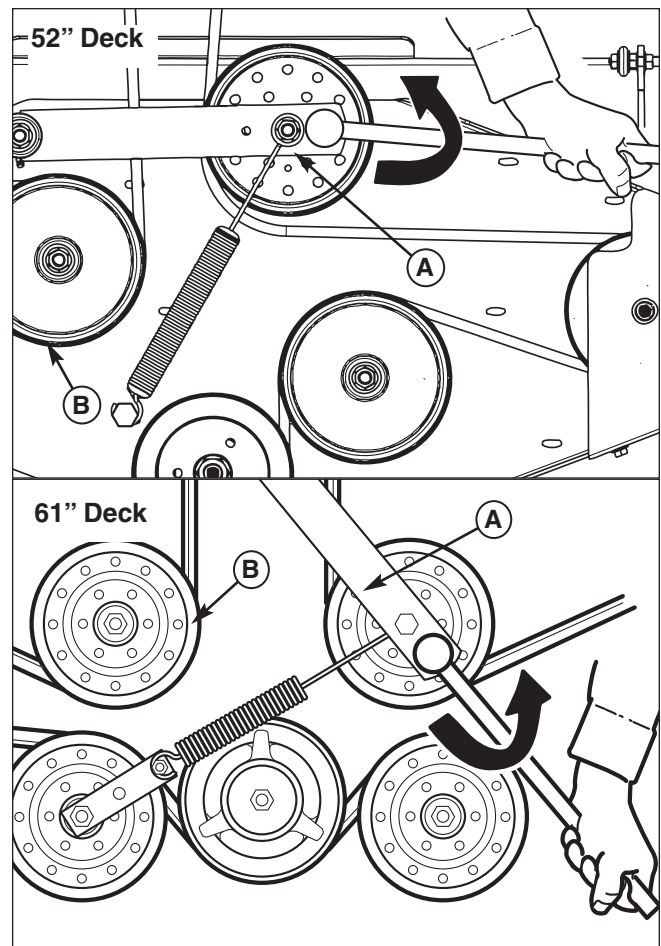

Figure 44. Mower PTO Belt
2. Using a 1/2" breaker bar, place the square end in the square hole located in the end of the idler arm (A, Figures 44). Carefully rotate the breaker bar counter-clockwise, which will relieve the tension on the belt exerted from the idler arm.
3. Slide the drive belt over the edge of the stationary idler pulley (B). Carefully release the tension on the breaker bar until the idler arm stops against the center spindle pulley.
5. Install the drive belt on the PTO pulley, the spindle pulleys and all idler pulleys except the stationary pulley (B, Figure 44). Carefully rotate the breaker bar counter-clockwise and install the belt on the stationary idler pulley (B). Carefully release the tension on the breaker bar.